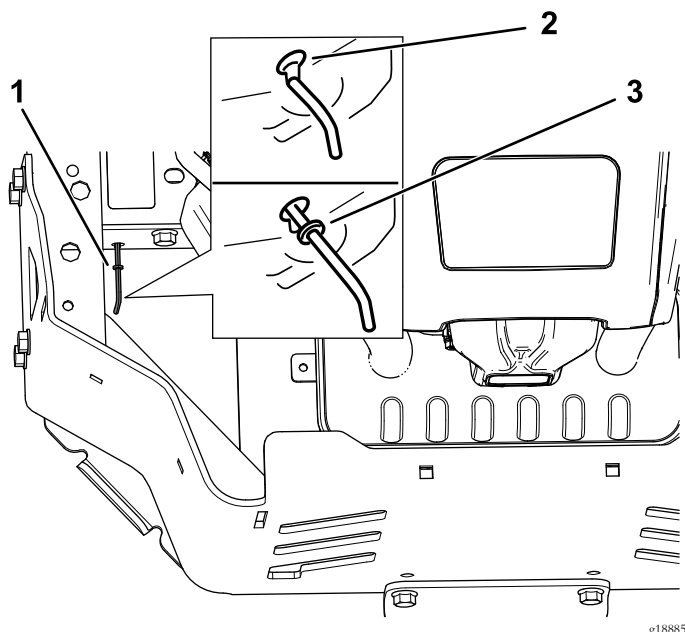

Figure 36
4. Move the bypass levers forward through the key hole and down to lock them in place (Figure 36).
Move the bypass levers rearward through the keyhole and down to lock them in place as shown in Figure 36.